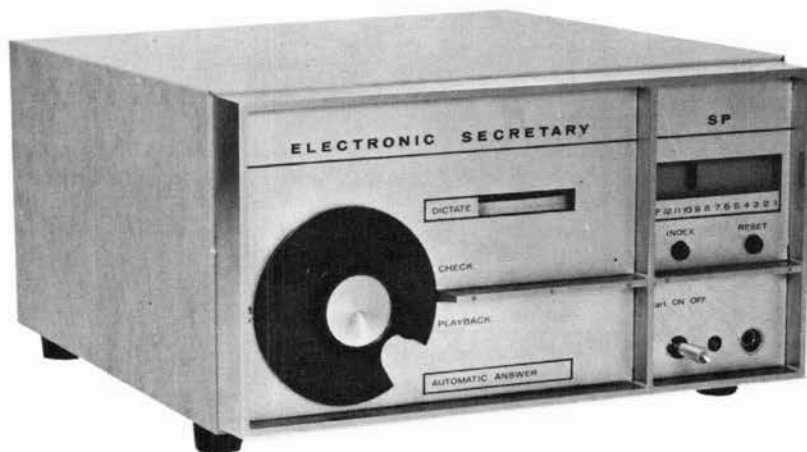

Figure 1. Model SP-2 (Front View).
1.01 This Section presents a description of the Model SP-2 Telephone Answering and Recording Set (Figure 1) and instructions pertaining to the installation and field maintenance of the unit. This information is arranged in separate Parts of this Section to enable its easy access by those personnel concerned with installation and field maintenance of the unit.
2.16 The number of messages received is indicated by a counter at the upper right of the front panel (Figure 1). As the tone arm steps across the recording disc, a pointer attached to the front of the arm moves across the face of a window. Below the pointer is a scale numbered 1 to 12 and "F" (full).
3.05 Upon completion of the installation, make certain that all features of the Model SP-2 function properly by making the following tests. See Figure 1.